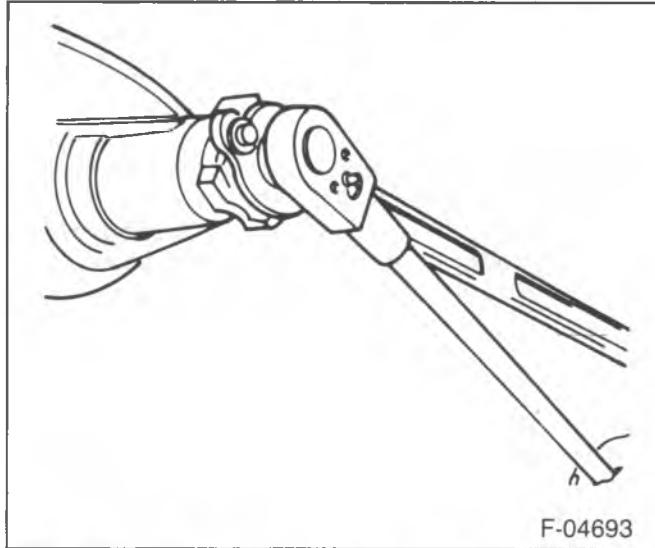

Figure 5—Removing the Drive Pinion Nut
15. Ring gear (15) from the differential.
16. Pinion flange nut (6) and washer (7) using J 8614-01 to hold the pinion flange (figure 5).